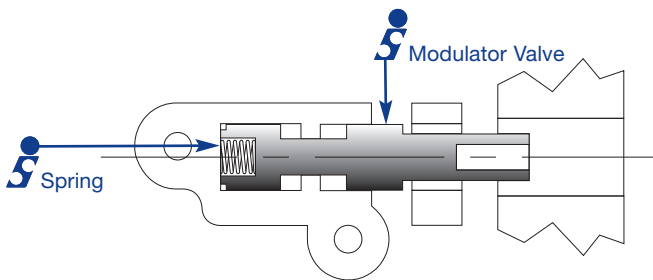

Figure 3
7. Reinstall the modulator in accordance with Ford specifications (See Figure 3).
Yellow: (1lb. 4oz. per figure 3) 1-2 shift, 2mph earlier; 2-3, 3mph earlier
Pink: (2lb. 4oz. per figure 3) 1-2 shift, 5mph earlier; 2-3, 3mph earlier